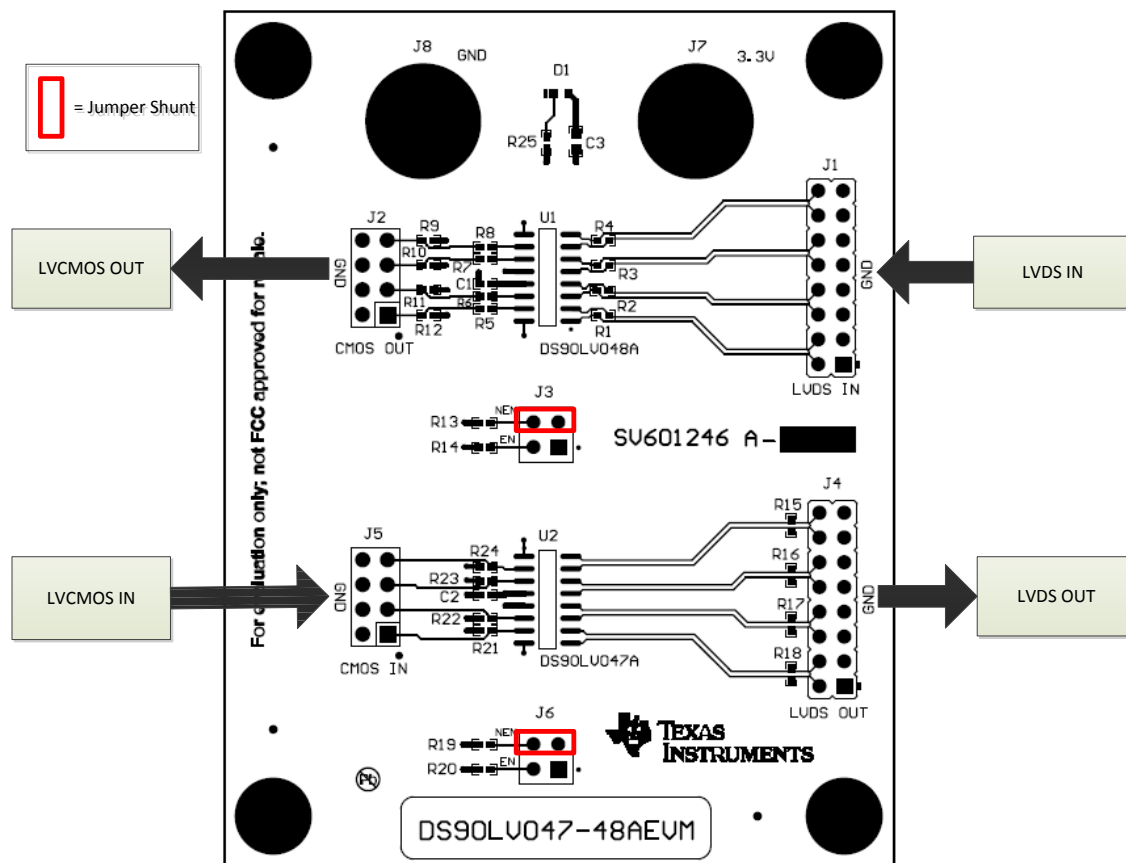
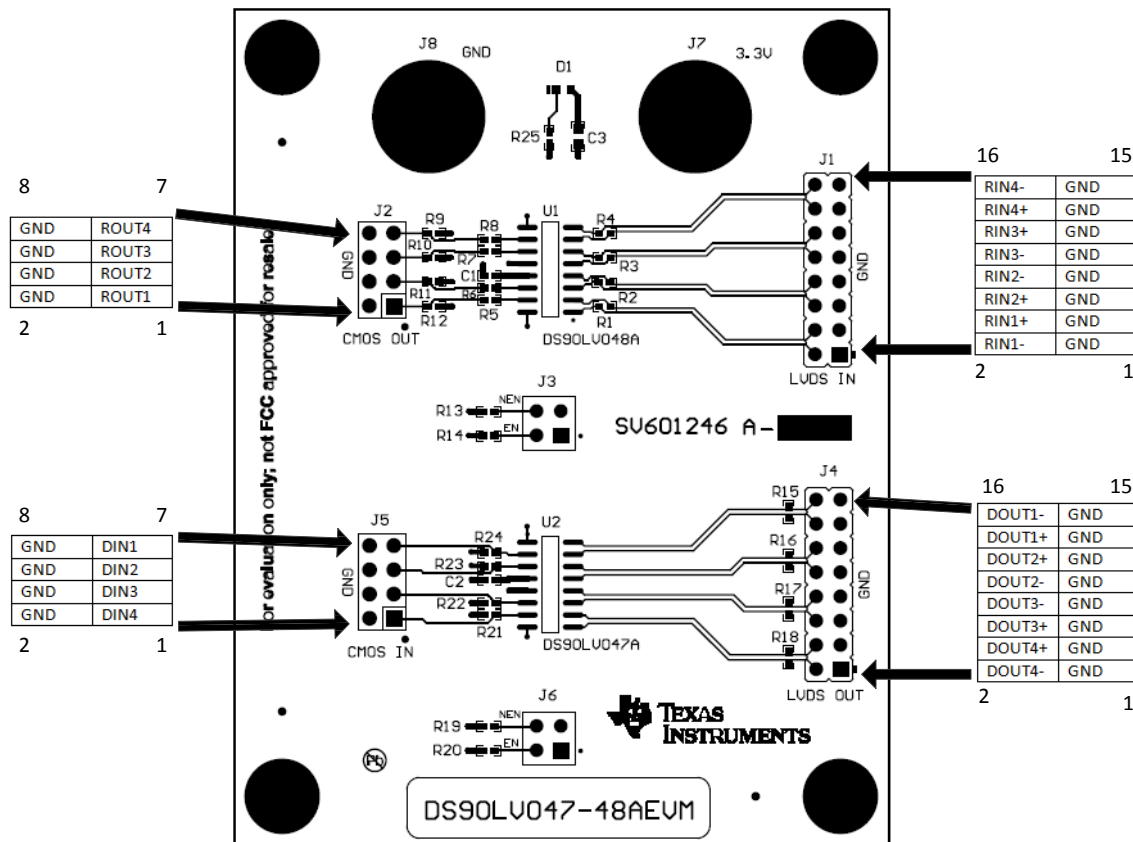
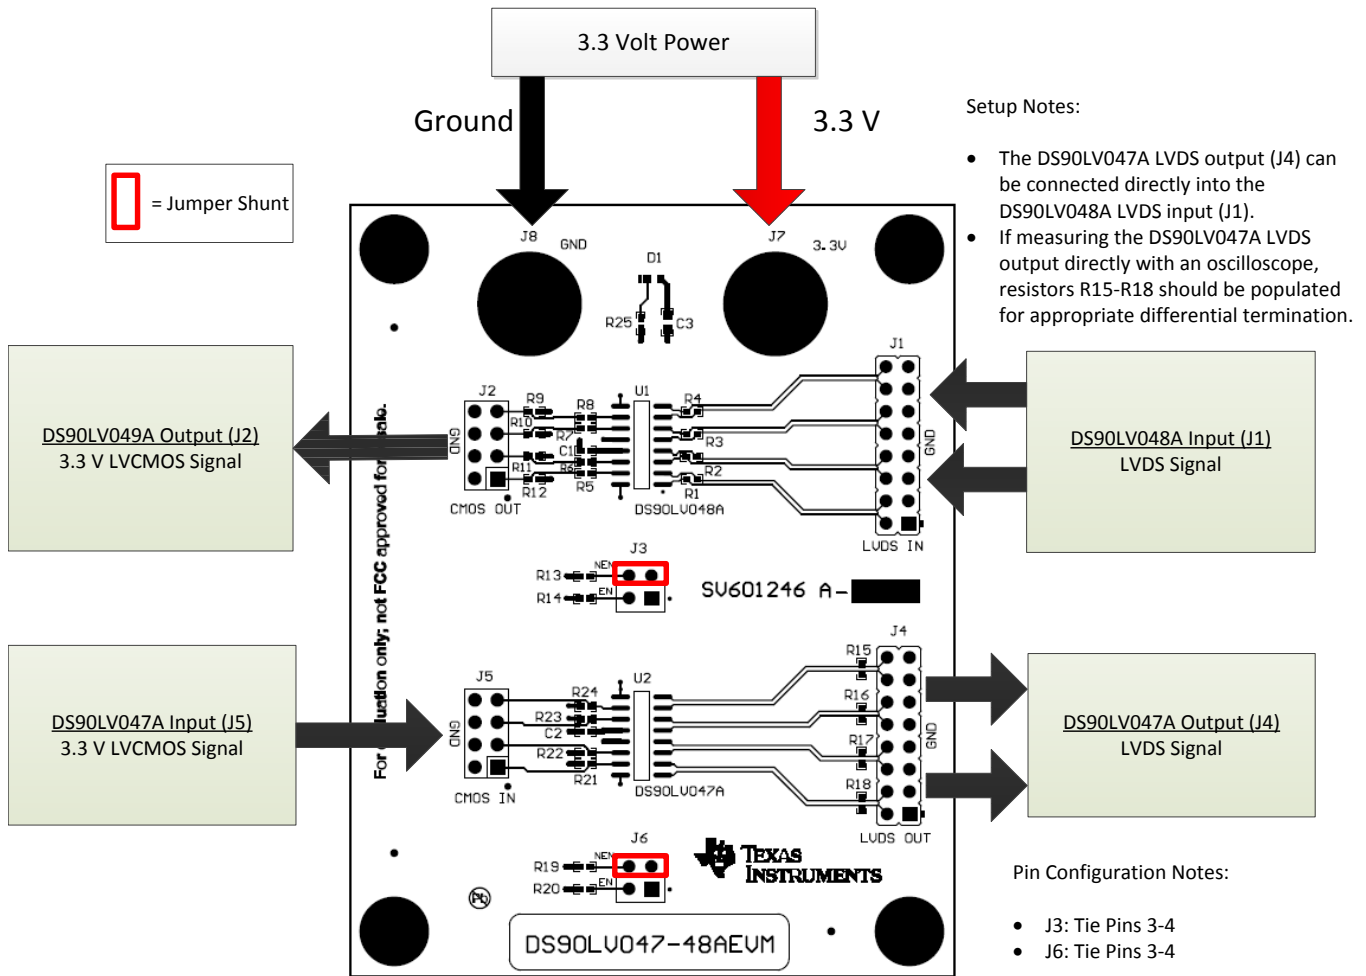

Figure 2. DS90LV047-48AEVM Input and Output Diagram
Figure 3. DS90LV047-48AEVM Input and Output Header Connections
Figure 4. DS90LV047-48AEVM Setup Configuration
The DS90LV047A is a LVDS Quad CMOS Differential Line Driver, and the DS90LV048A is a LVDS Quad CMOS Differential Line Receiver. When operating the DS90LV047-48AEVM, jumper setting definitions can be referenced in Table 1, while signal input and output connection descriptions can be found in Figure 2 and Figure 3. When using the DS90LV047A and DS90LV048A together, the typical configuration is to connect the DS90LV047A outputs (J4) such that they drive the inputs of the DS90LV048A (J1).
For hardware setup and connections, reference the diagrams in Figure 3 and Figure 4.
2. Install the default shunt jumpers for appropriate operation, as shown in Figure 4.
The following plots show typical waveforms measured on the DS90LV047-48AEVM inputs and outputs using the hardware setup in Figure 4. For these measurements, the following parameters were used: